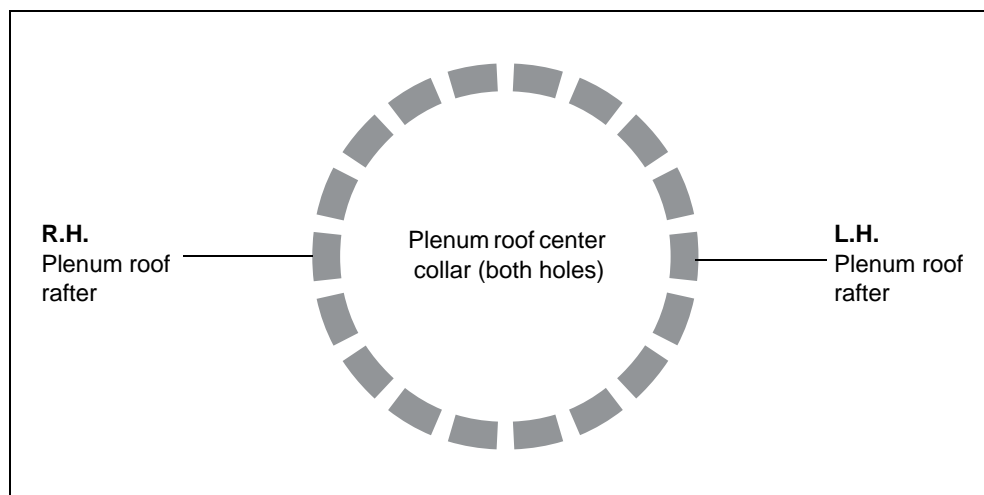

Figure 5Y
1. From opposite sides of dryer, bring a pair of plenum roof rafters together to plenum roof center collar in center of dryer. Orient to bolt holes in plenum roof center collar as shown in Figure 5Y.